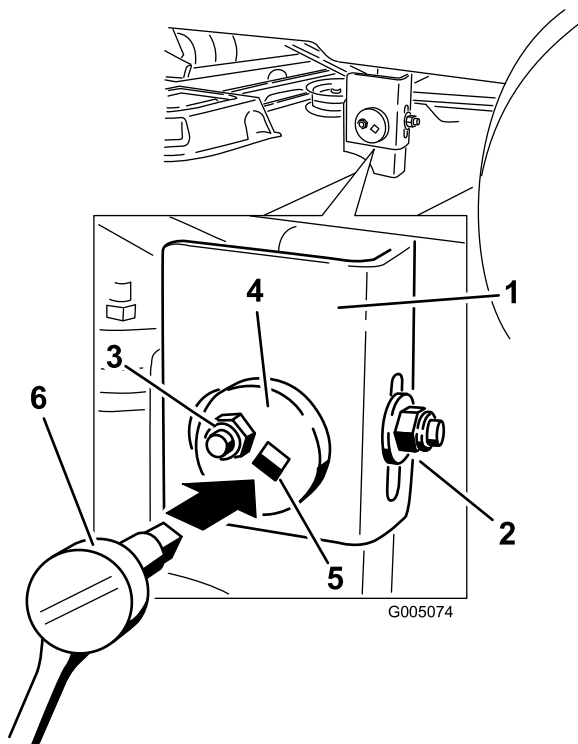

Figure 52
6. Move to the left side of the machine. Loosen, but do not remove, the rear locking nut on the hanger bracket (Figure 52).
7. Loosen the side locking nut on the hanger bracket just enough to allow the eccentric plate to be adjusted (Figure 52). Use a 3/8 inch drive extension on a socket wrench to manipulate the eccentric plate. Use the wrench to reposition the height of the mower deck and adjust it so the measurements taken in Step 5 are within 3/16 inch (5 mm).
8. Stop the deck at the adjusted position and tighten the side locking nut on the hanger bracket to hold the new position (Figure 52). Tighten the rear locking nut on the hanger bracket.